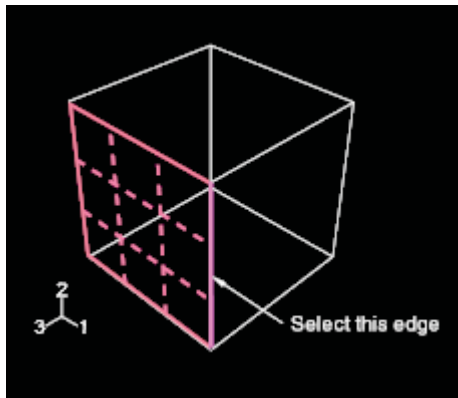

Figure 6-2
2. Select the face at the front of the cube by clicking on the face shown in Figure 6-2.
3. Select an edge that will appear vertical and on the right side of the sketch, as shown in Figure 6-2. The Sketcher starts and displays the outline of the base feature as reference geometry.